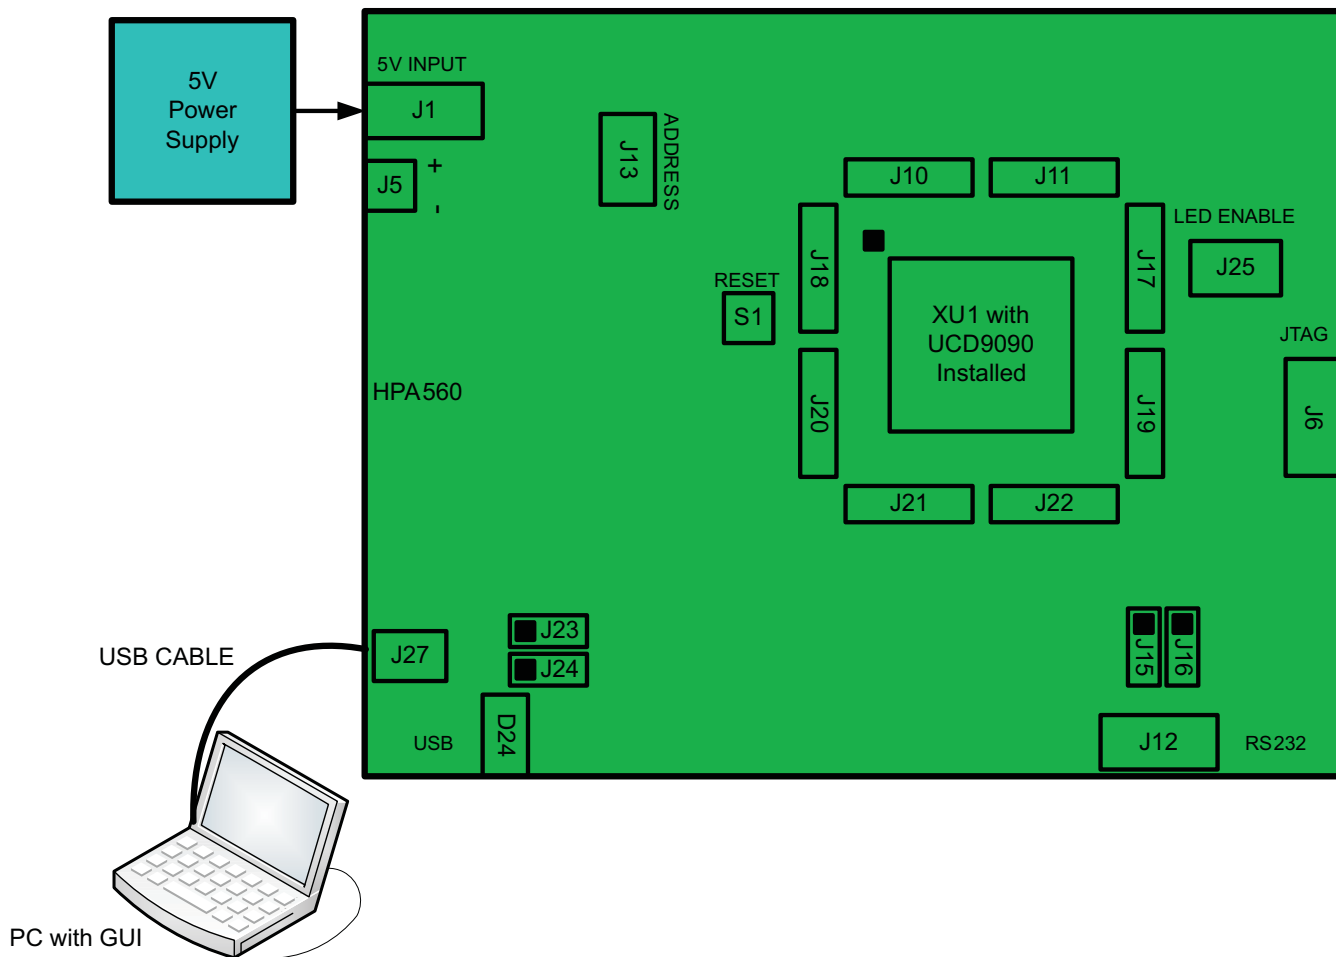

Figure 1. Typical Test Setup
Figure 1 shows a typical test setup for the UCD90SEQ48EVM-560. All that is required is a personal computer (PC) with a USB port and the TI Fusion Digital Power Designer GUI. The USB-EVM cable is provided with the evaluation module (EVM) and is used for EVM power.
When installing the UCD9090 sequence devices into XU1, ensure that the device pin 1 is oriented as shown in Figure 1.